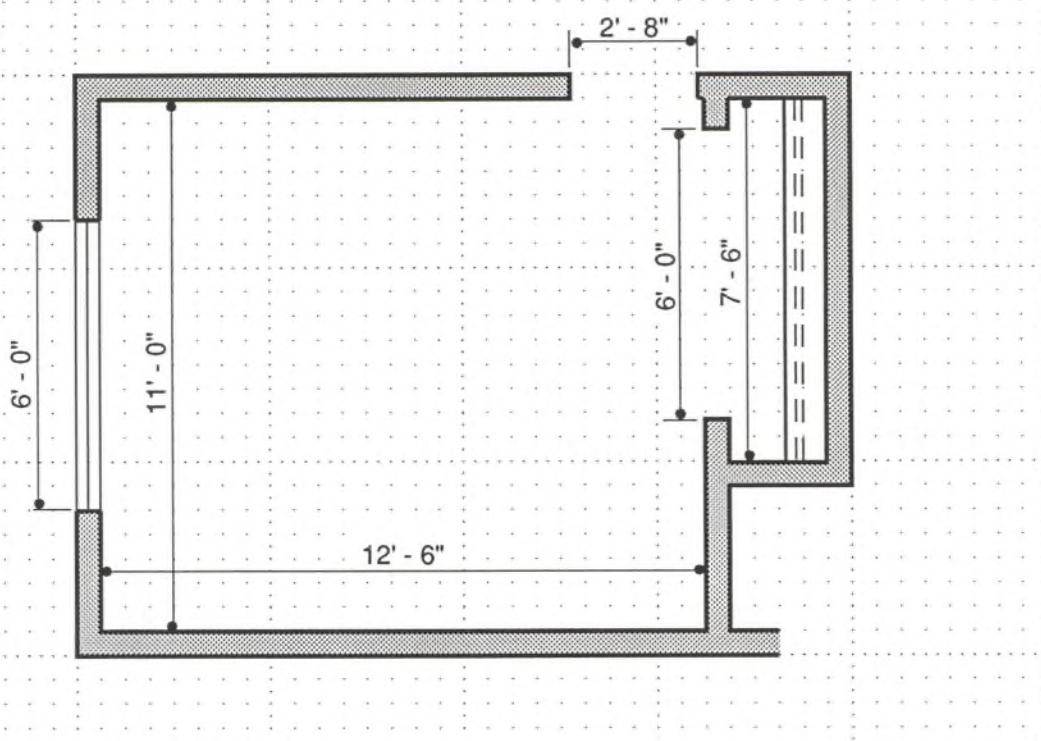

Fig. 5.6 Dimensions have been added.
7. Put in dimension lines with a well-pointed 2H lead as shown in Fig. 5.6. Note the measurements lightly. Making dimensions a part of the drawing at this stage gives you quick reference.
8. Make your dimensions more distinct by erasing your original notations one at a time and putting them in more carefully with a heavier pressure on your pencil. An F lead works best for lettering. Use light 4H guidelines, uniformly spaced, for all lettering and numbers. (See Fig. 5.6.)